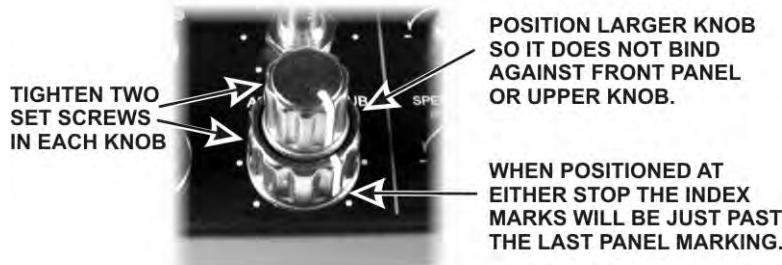

Figure 48. Mounting Concentric Knobs.
□ Place the larger of a pair of concentric knobs over the RF/SQL - SUB control as follows (See Figure 48):
- Place the smaller knob over the shaft, align its index line as shown in Figure 48 and tighten one set screw with a 0.050" Allen wrench.